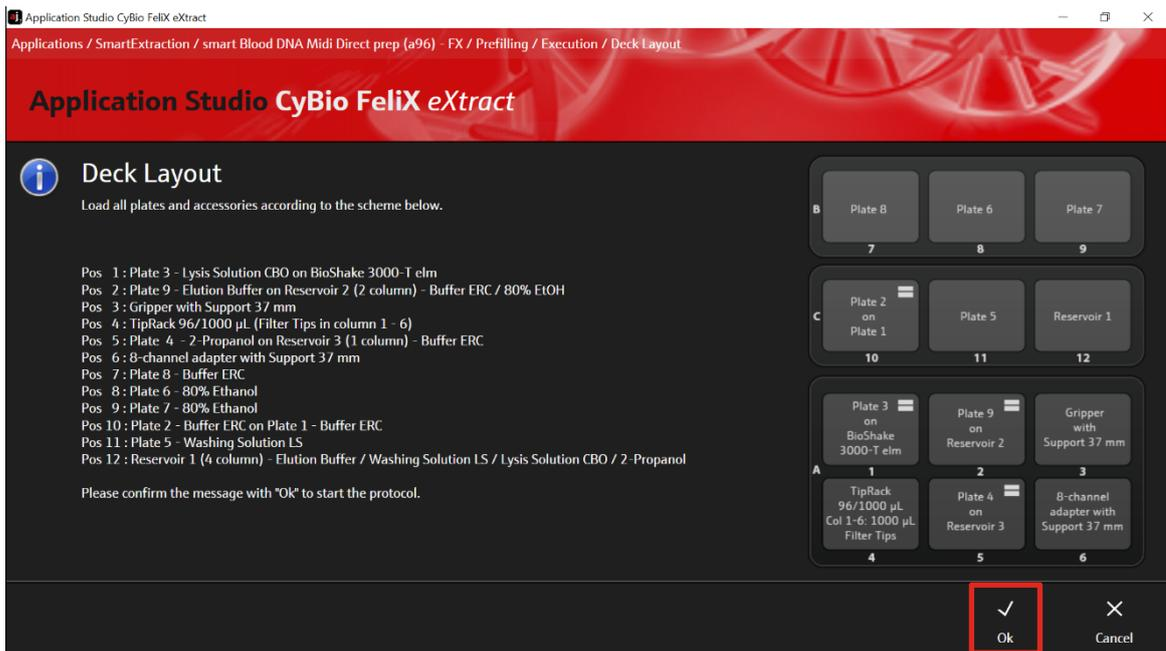

Figure 27: Deck layout for checking the right positions of all plates and accessories.
21. Check the correct deck positions of all plates, reservoirs and other hardware components (compare with list displayed in AppStudio Felix eXtract, \rightarrow see Figure 27) and confirm with "Ok".